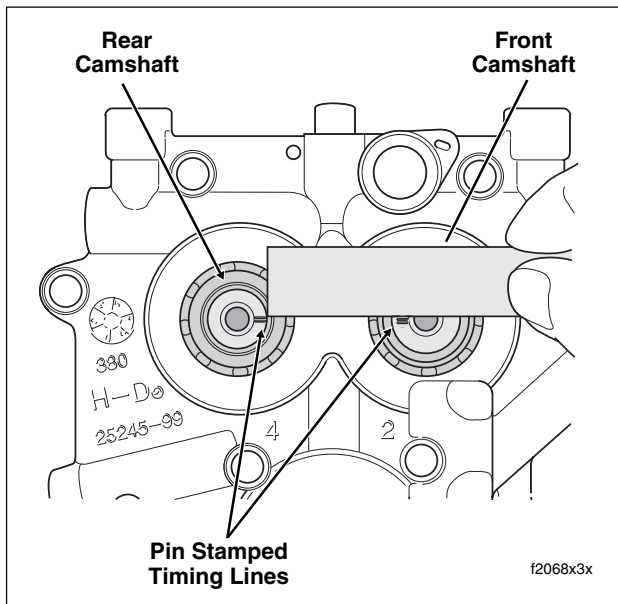

Figure 3-115. Verify Alignment of Timing Lines on Ends of Camshafts
- Since the pin stamped timing lines on the secondary sprockets cannot be observed once the camshafts are pressed into the bearings, note that the outboard ends of the shafts have a second set of timing lines (although they may be somewhat difficult to see). Using a straight-edge, verify that these timing lines are in alignment. See Figure 3-115. If they are not, then the camshafts must be removed and reinstalled (with a new bearing set).